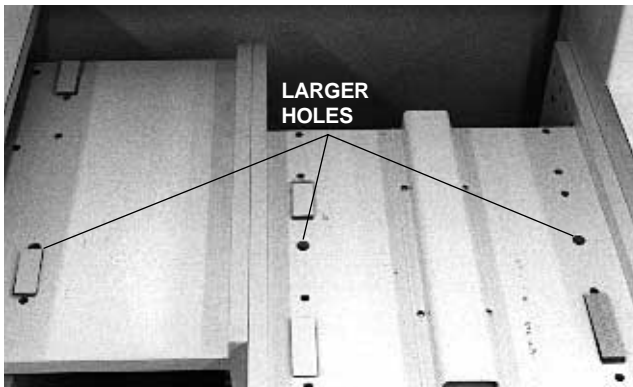
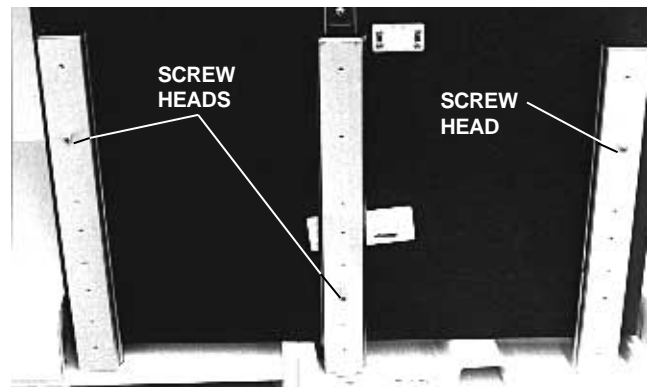

FIGURE 20
FIGURE 21
2. Identify the three larger holes in the lower module (see *Figure 20*). These holes accept the heads of the three locating screws installed in the slides of the countertop (see *Figure 21*).